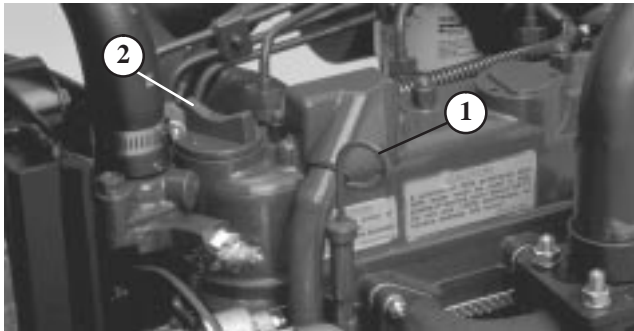
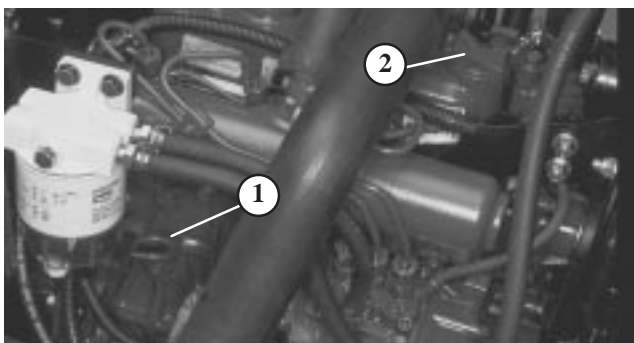

Figure 15
Figure 16
2. Remove dipstick, wipe clean, and reinstall dipstick. Remove dipstick and check oil level on dipstick; Oil level should be up to FULL mark (Reelmaster 5200—Fig. 15, Reelmaster 5400—Fig. 16).